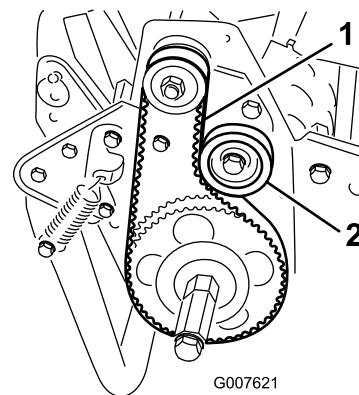

Figure 38
2. Check the tension by pressing the belt at mid span of the pulleys (Figure 38) with 18 to 22 N (4 to 5 lb) of force.
- A. Loosen the idler-pulley mounting nut and pivot the idler pulley clockwise against the backside of the belt until you attain the desired belt tension (Figure 38).
the belt until the desired belt tension is attained (Figure 38).